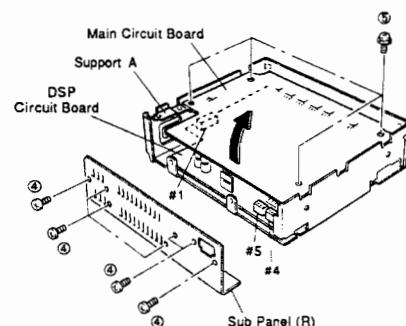

Fig. 2
- a. Remove 7 screws (④) in Fig. 2 and then remove the Sub Panel (R).
- b. Remove 4 screws (⑨) in Fig. 2 and then remove the Main Circuit Board.